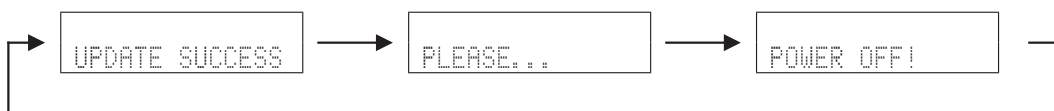

Fig. 3
- 5. When writing of the firmware is completed, “UPDATE SUCCESS”, “PLEASE...” and “POWER OFF!” are displayed repeatedly. (Fig. 3)